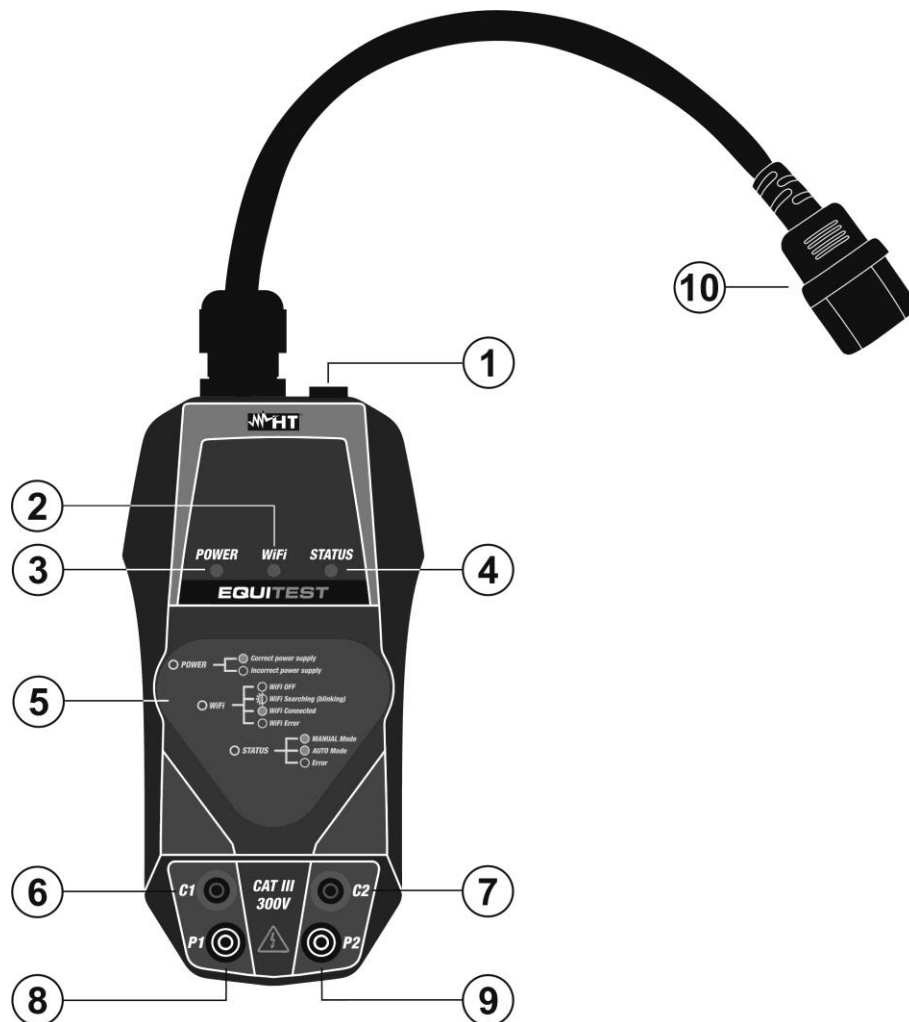
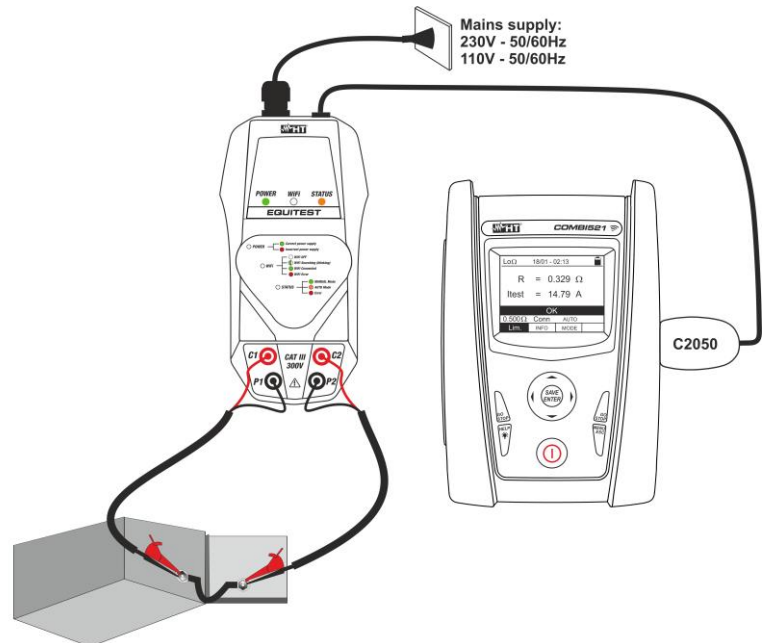

Fig. 1 Description of the instrument
Fig. 3 Using the instrument with MASTER unit
1. Connect the instrument to the power supply using the supplied network cable (see Fig.1 - part 10). The **POWER** LED is **steady green** to identify the correct power supply voltage, the **STATUS** LED is **steady green** to identify the operation of the instrument in **Manual mode** (see user manual of the MASTER instrument) and the **WiFi** LED is on in **green flashing** color to identify that the instrument is trying to make (if available) a WiFi connection with an external mobile device via the HTEquitest APP (see § 5.2) and has no functionality in the connection with the MASTER instrument
2. Connect the instrument to the MASTER instrument (see Fig. 3) by using the C2050 cable supplied (see Fig. 1- part 1)
4. Connect the two black cables of the **C7000** cable set to the input sockets **P1** and **P2** and the two red cables to the input sockets **C1** and **C2** (see Fig. 3)
5. Connect the alligator clips of the **C7000** cable set to the ends of the object under test (see Fig. 3)
7. By selecting the **Automatic mode** on the MASTER instrument (measurement activated without using the **GO/STOP** key) check that the **STATUS** LED should be **steady orange** and connect the alligator clips to the ends of the object under test (see Fig. 3) to automatically activate the test
- Connect the instrument to the power supply using the supplied network cable (see Fig.1 - part 10). The **POWER** LED is **steady green** to identify the correct power supply voltage, the **STATUS** LED is **steady green** to identify the operation of the instrument in **Manual mode**